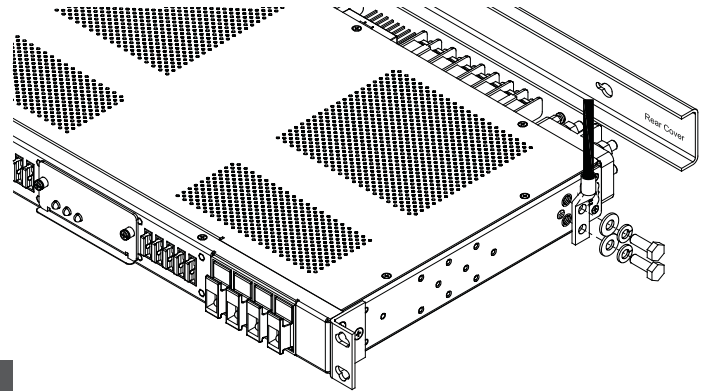

Figure 4 - Ground Lug Connection
8. Connect the lug using the 1/4-20 bolt, split ring washer and flat washer provided, as shown in Figure 4.